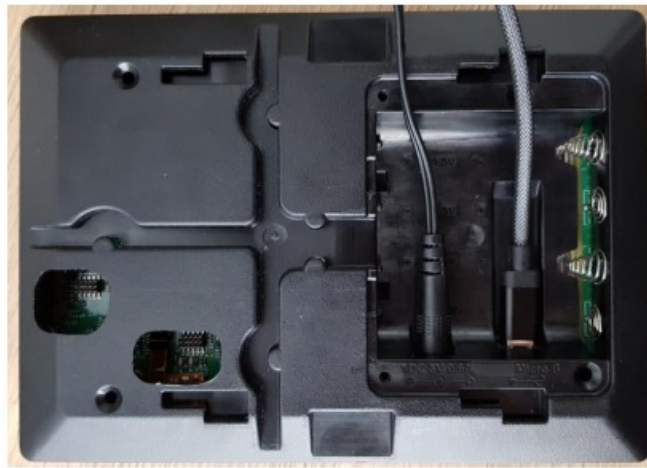

Figure 4-2 Digital Signage Board with power plug and USB cable connected
- Custom Display Tablet (see Figure 4-2)